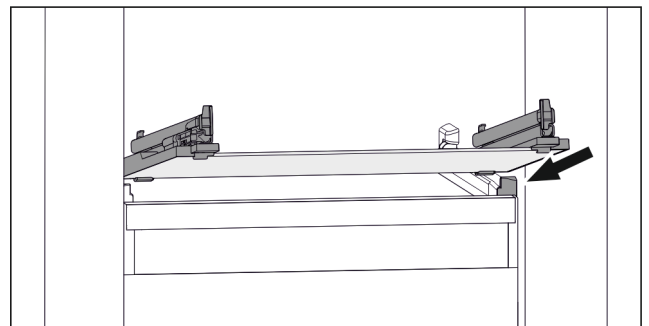

Fig. 39 Example illustration of glass shelf
- ▶ Position glass shelf at an angle behind the stoppers. (see Fig. 39)